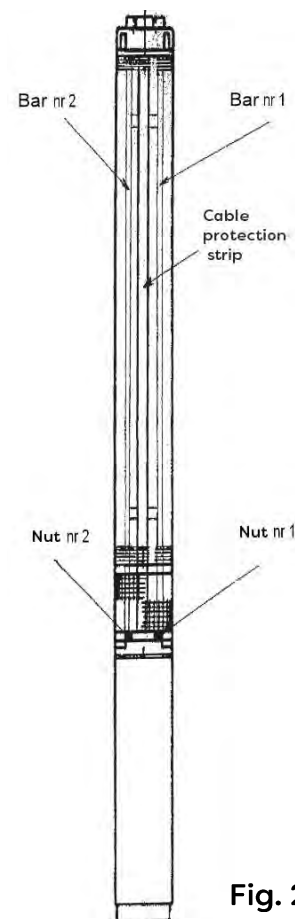

Fig. 2
Installation of the hydraulic part with the motor (Fig. 2):
- a) Before assembling the hydraulics with the motor, you will need a spanner no. 13 for 4" pumps; in the case of 6" pumps you will need a ring spanner no. 19. Use this spanner to unscrew the nuts No. 1 and 2 (Fig. 2) to loosen the bars No. 1 and 2 (Fig. 2)
- b) Remove the suction screen (item 2) and expose the pump shaft end (item 3). Slide the cable protection strip towards the discharge outlet, and then bring it closer to strip 2 so that the cable strip can be removed,